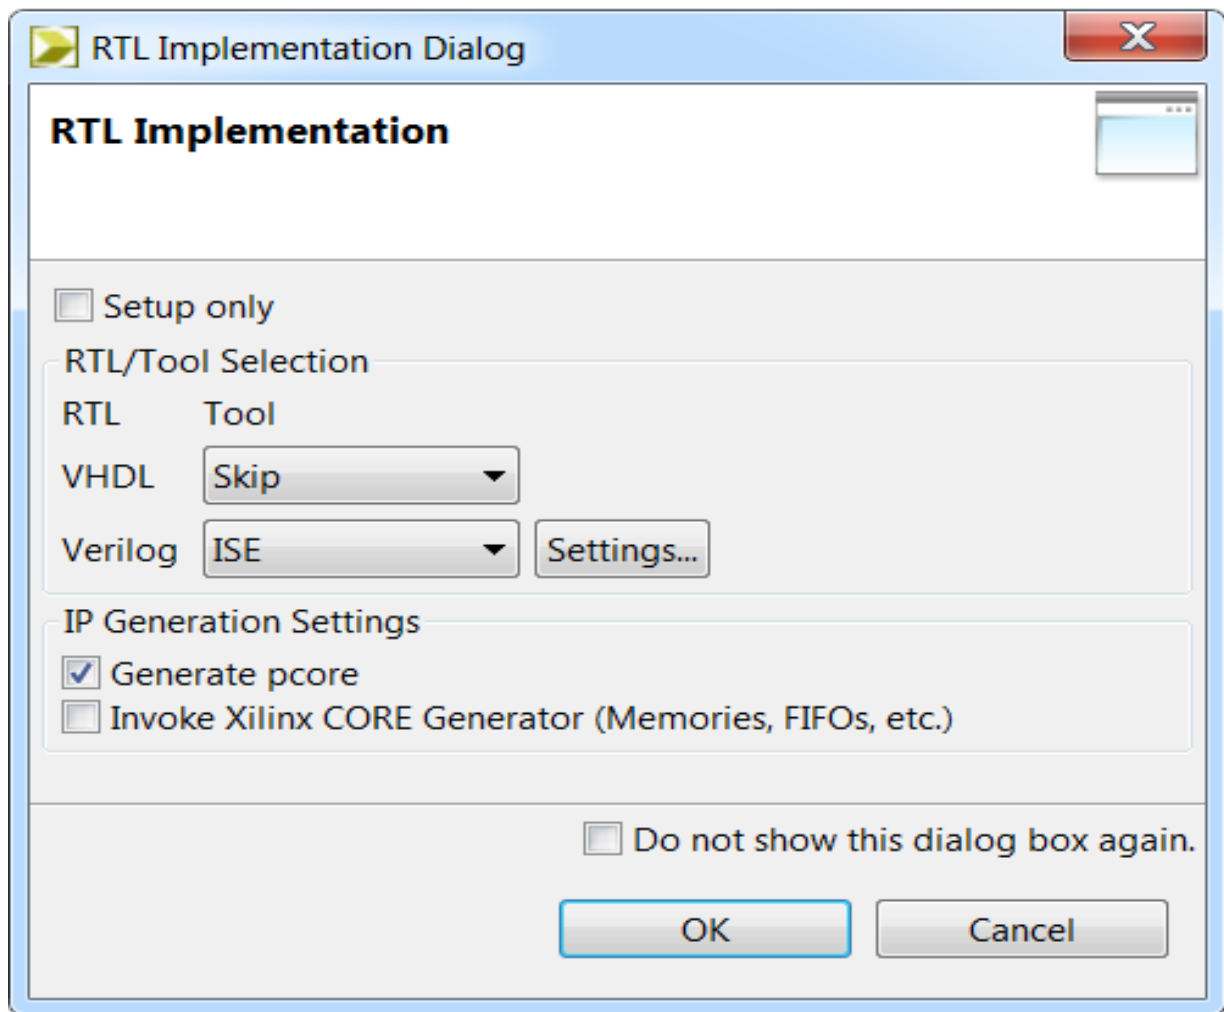

Figure 1-6: RTL Implementation Dialog
- Select **Generate pcore** from the RTL Implementation Dialog window as shown in Figure 1-6.